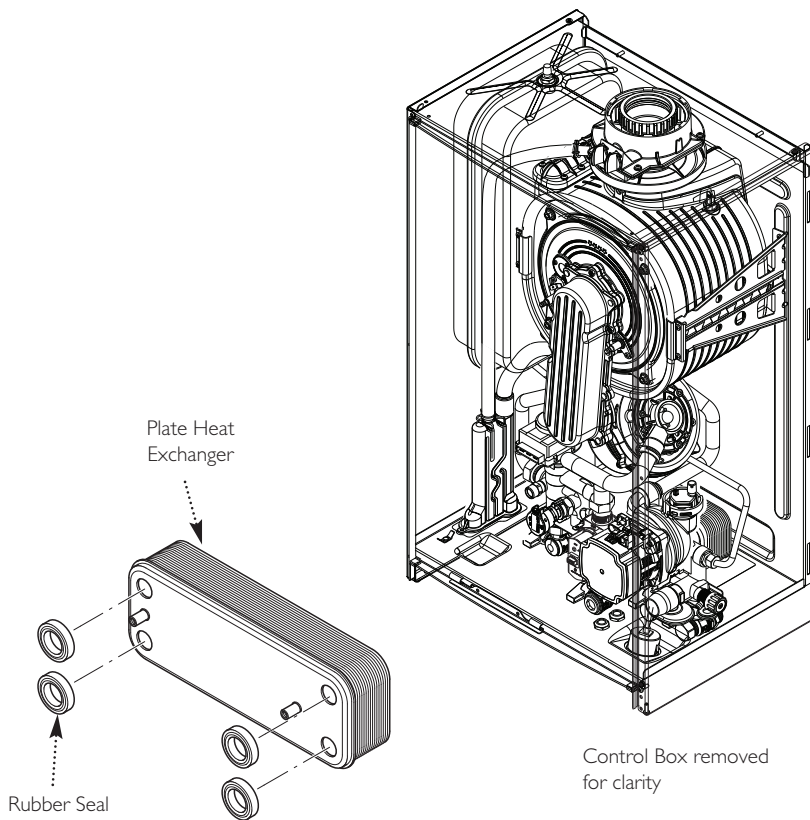

Fig. 62
13.17 Plate Heat Exchanger (Fig. 62)